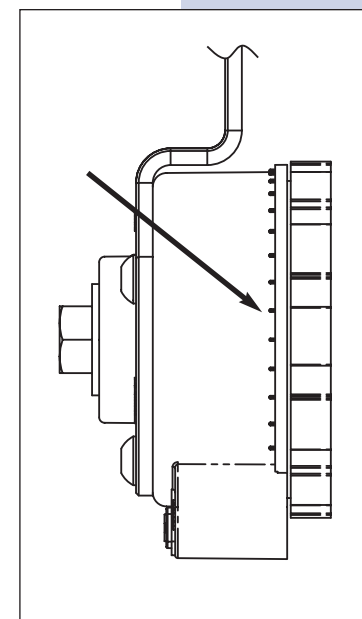

Fig. 3
9. The housing of the tensioner has equally spaced graduation marks (every 10°) that can be used to establish rotational degrees and resulting tensioner force. See Fig. 3. For reference, you may want to place a mark on or near the desired graduation mark.